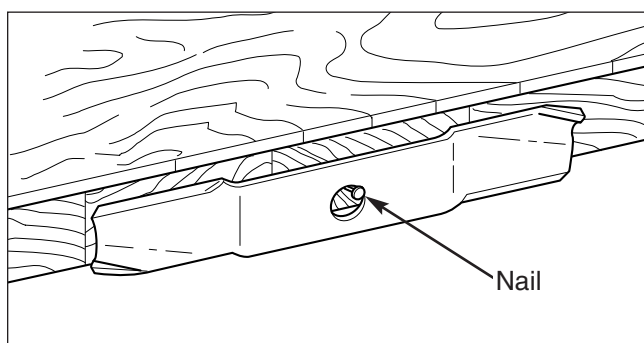

Figure 23. Balancing The Blade
4. Balance the blade as shown in Figure 23. Center the blade's hole on a nail lubricated with a drop of oil. A balanced blade will remain level.